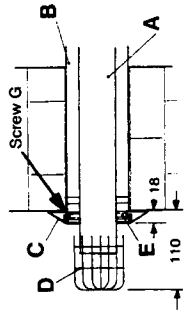

Fig. 17
Separate the two tubes by removing screw G (fig. 17).
Ensure inner and outer terminal tubes are firmly fitted together with screw G (fig. 17).
Push the terminal tubes through the wall until the face of the outer tube protrudes 18mm from the face of the wall (fig. 17). The terminal grill (D) will then protrude 110mm from the wall face.
NOTE: The two tubes must be separated by removing screw G fig 17 before cutting.